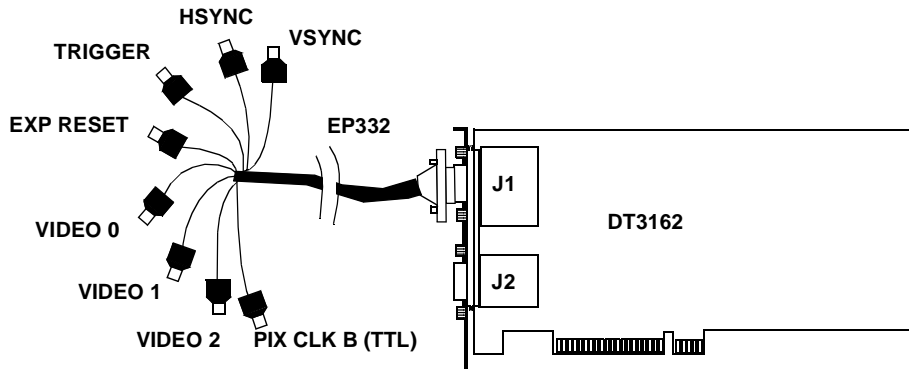

Figure 3: Connecting the EP332 Cable Assembly to Connector J1
1. After making sure power to the computer is off, push the connector end of the EP332 cable into the J1 socket at the rear of the DT3162 board, as shown in Figure 3, and tighten the screws on the connector.